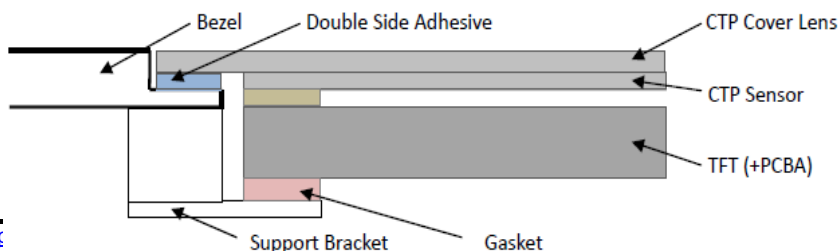

Figure 2
7.2 Surface Mounting (Figure 2)
7.2 嵌入安装（附图2）